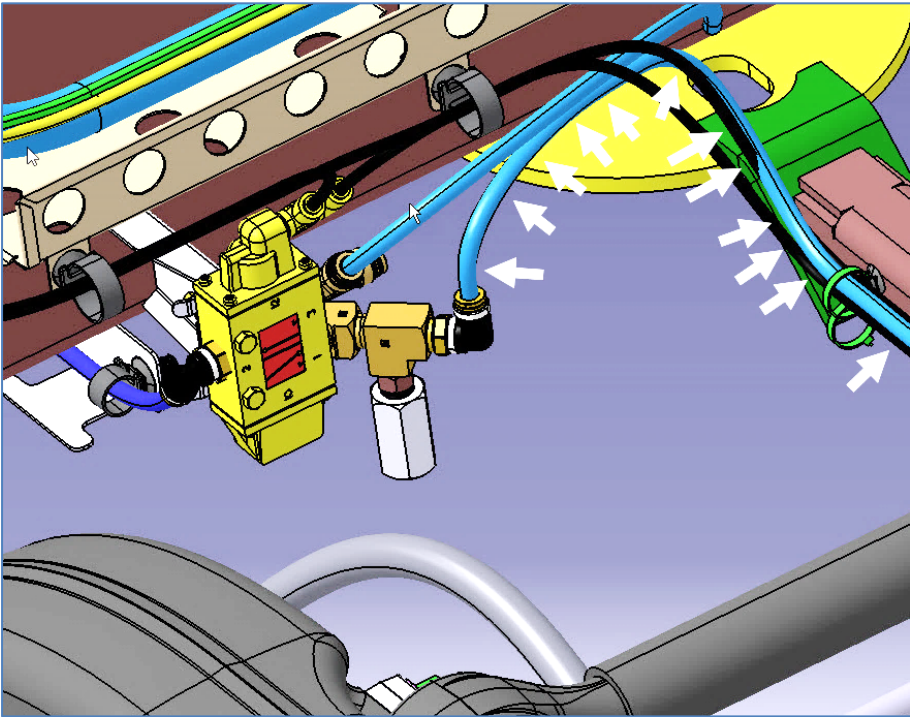
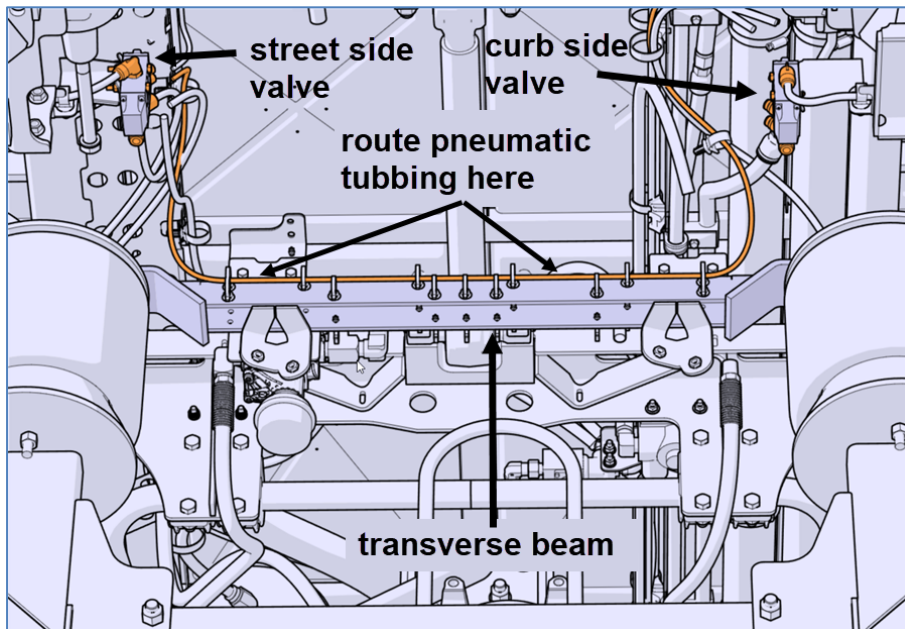

Figure 12: STREET SIDE VALVE
Figure 14
13) Route the blue pneumatic tubing from the exhaust port of a valve up to the exhaust port of the other valve (see Figure 12 to Figure 14).